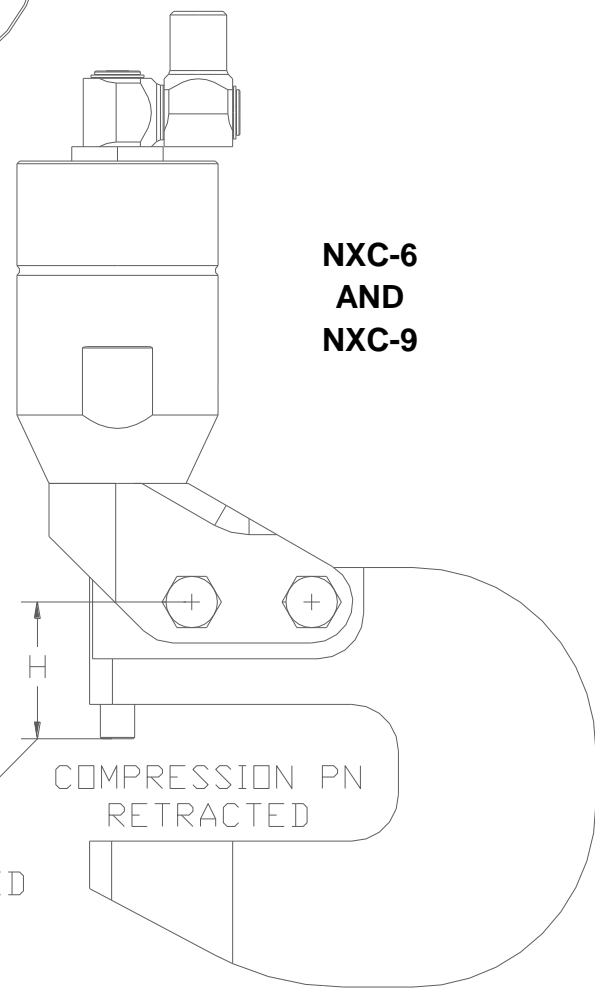

FIGURE 10 – COMPRESSION PIN LENGTHS
- 4.10 Refer to Figure 10 for variations of compression pins that can be used with the c-yokes. The default compression pin used with Numatx NXY HD yokes is a -15. Some pre-planning on compression pin length may be necessary, factoring in compression pin travel (.550"), c-yoke deflection, and necessary retraction distance for part clearance.